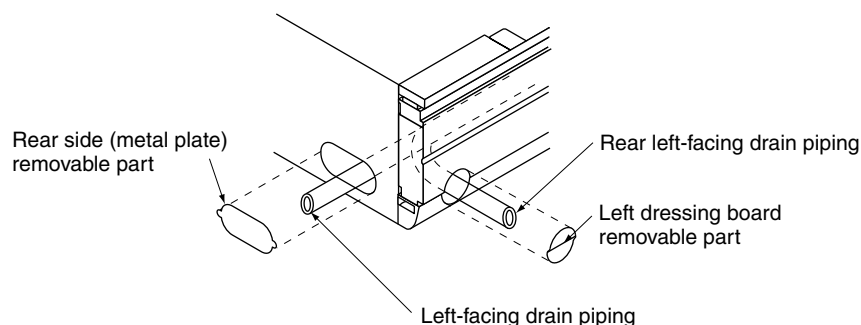

Fig. 20
- The drain pipe outlet direction can be chosen from the right rear, right, left rear, and left. Refer to "REFRIGERANT PIPING WORK" for right rear and right direction, and refer to Fig. 20 for left rear and left direction.